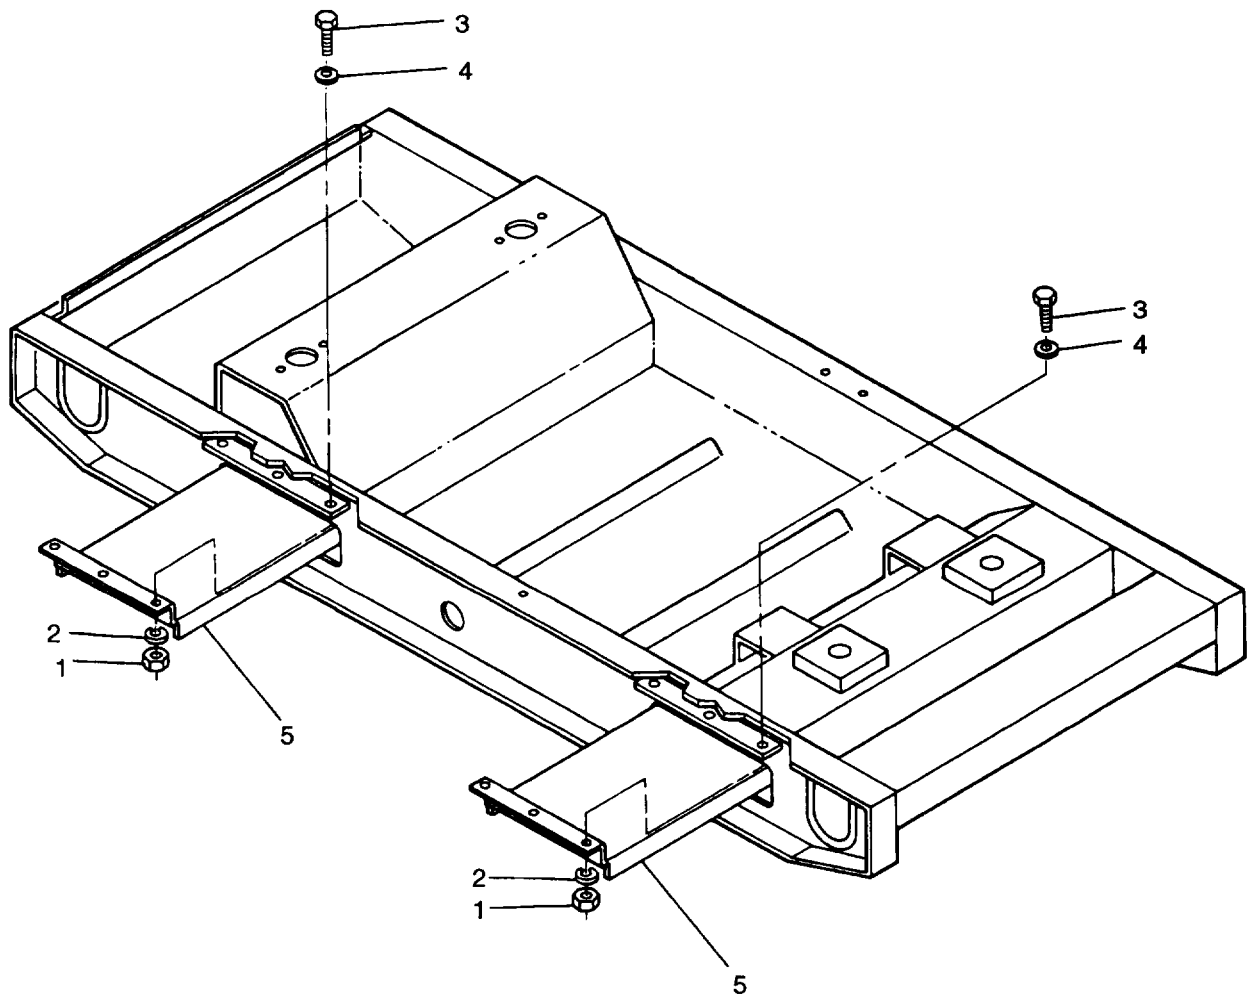

FIGURE 4-16. Skid Base
- d. Remove nuts (1, FIGURE 4-16), lockwashers (2), bolts (3), washers (4), and forklift guides (5) from skid base.
- a. Install forklift guides (5, FIGURE 4-16) in skid base with bolts (3), washers (4), lockwashers (2), and nuts (1).